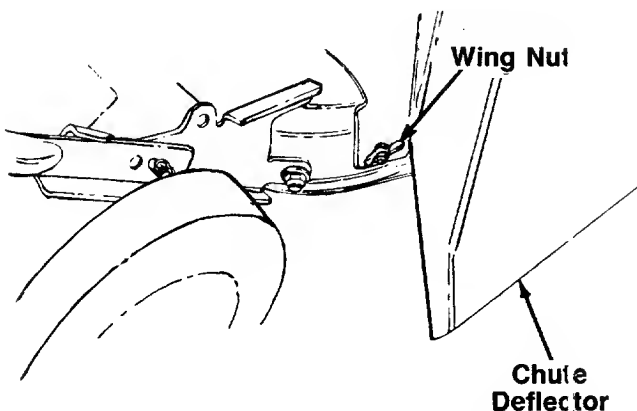

FIGURE 12.
3. Secure the back of the deflector in the same manner. See figure 12.